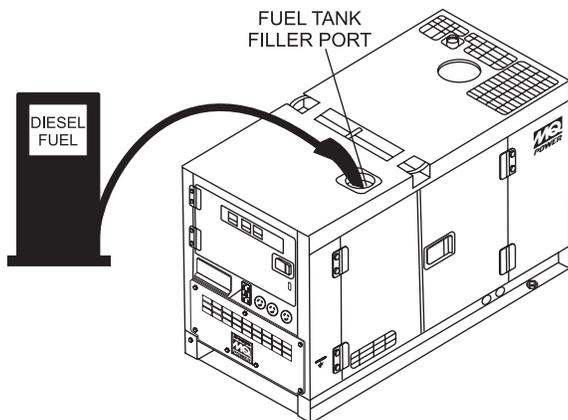

Figure 19. Fueling the Generator
4. Remove fuel cap (located on top of generator) and fill fuel tank as shown in Figure 19.